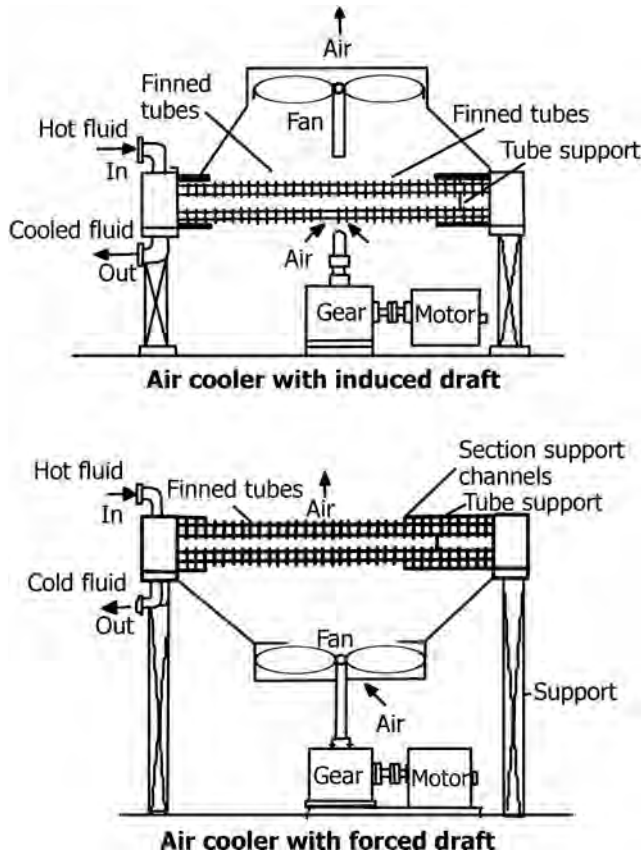

FIGURE 13.8 Air-cooled heat exchanger.
- Figure 13.8 illustrates the essential features of air-cooled heat exchangers.